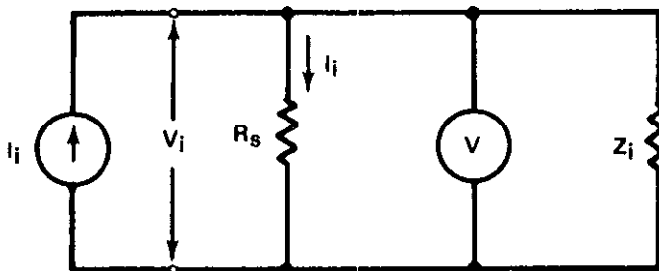

Figure 2-6. Typical Shunt Type Picoammeter
This type consists of a voltmeter,  $V$ , calibrated in amperes, which responds to the  $IR$  drop across a shunt resistor,  $R_s$ . Refer to Figure 2-6. The voltmeter can be one of two kinds:
**Low Impedance Voltmeter**-The circuit of a shunt-type picoammeter using a low-impedance voltmeter is essentially the same as Figure 2-6, except a more sensitive but lower input impedance voltmeter is used. A lower input voltage drop results, but response speed and maximum current sensitivity are usually less. The voltage drop is  $I_i R_s$ . Typical values are: